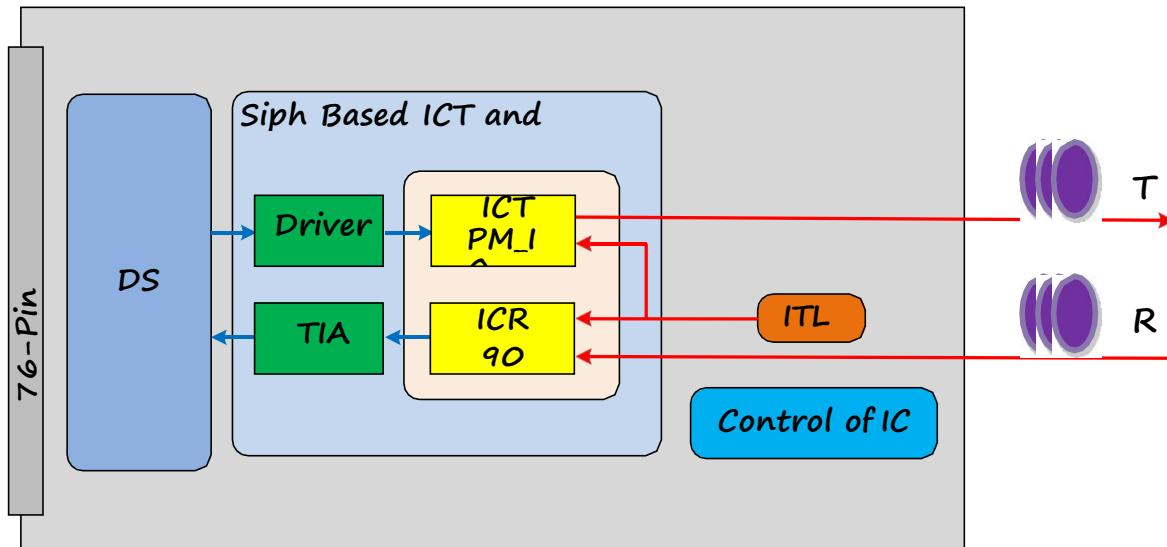

Figure 1: Functional Diagram of Module
The application field of the module is widely used for short haul (ZR). As shown in figure1, it is comprised of high-data lanes, a single 3.3V power supply, an IIC interface for module control and status report, and dedicated alarm and control pins (not shown on the figure1).